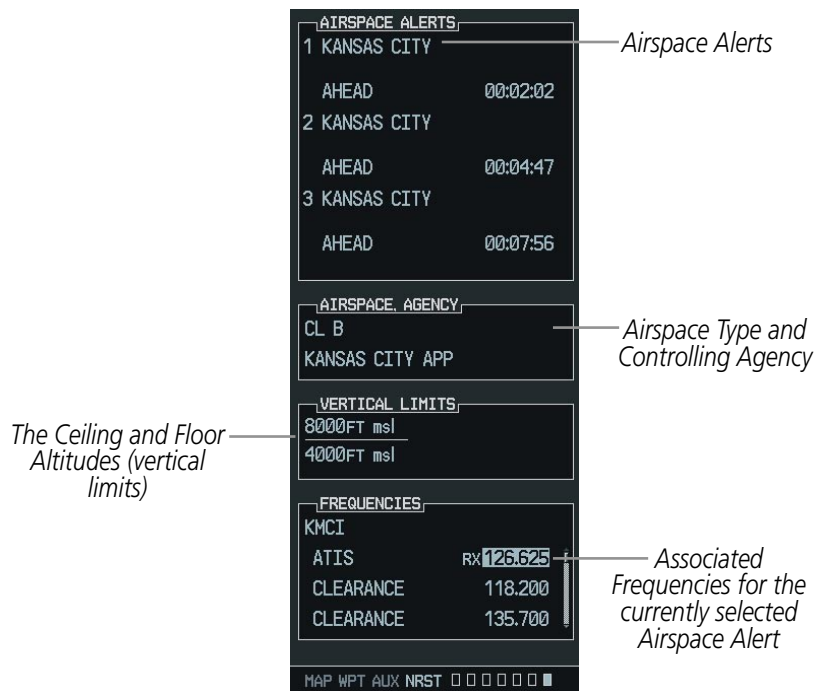

Figure 5-55 Nearest Airspaces Window
- 2) Select the **ALERTS** Softkey to place the cursor in the 'AIRSPACE ALERTS' box (Figure 5-55).